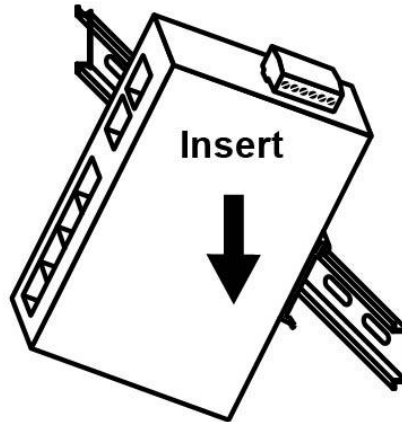

Figure 3.2: Insert the Switch on the DIN-Rail
- Step 3 After the DIN-Rail bracket is installed on the rear side of the switch, insert the top of the DIN-Rail on to the track as shown below in Figure 3.2.